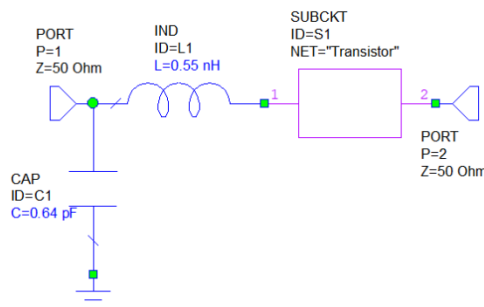

Fig. 5 Final schematic of the amplifier.
- From $g = 1$ it is possible to transform the input impedance to the Smith Chart's center using parallel capacitance $C1 = 0.64\ \text{pF}$ (blue curve). Use TUNE TOOL for these transformations. The resulting amplifier schematic can be seen in Fig. 5.